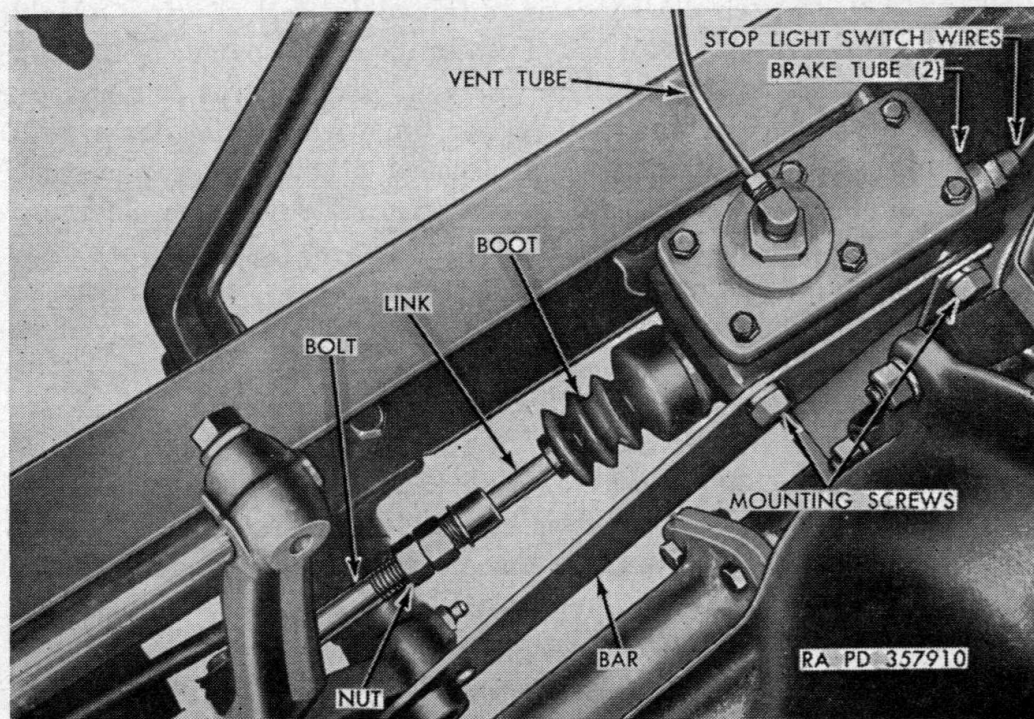

Figure 47. Brake master cylinder.
a. **REMOVAL.** Raise hood and disconnect battery ground at battery terminal. Remove vent tube (fig. 47). Remove two bolts holding master cylinder shield and remove shield. Pull stop light switch wires out of terminal on switch. Remove stop-light switch. Remove outlet fitting screw. Remove master cylinder front screw attaching cylinder to frame. Remove master cylinder rear bolt nut. Remove cotter pin holding master cylinder tie bar on pedal cross shaft. Remove master cylinder boot (fig. 47). Remove master cylinder and tie bar. Remove tie bar from master cylinder.
*g.* REMOVAL OF MASTER CYLINDER TO FRONT HOSE BRAKE TUBE (fig. 47). Remove clip from frame. Disconnect tube from brake hose fitting (frame to axle). Disconnect tube from master cylinder connection and remove tube.
*h.* INSTALLATION OF MASTER CYLINDER TO FRONT HOSE BRAKE TUBE (fig. 47). Connect tube at master cylinder. Connect tube at brake hose (frame to front axle). Install tube clip at frame. Bleed front brakes (*s* below). Press brake pedal; if soft pedal is experienced, bleed all brakes (*s* below).
*i.* REMOVAL OF MASTER CYLINDER TO REAR HOSE BRAKE TUBE (fig. 47). Remove clip on underside of frame rear cross member. Remove clip on frame side member. Disconnect tube at rear brake hose. Remove master cylinder shield. Disconnect tube at master cylinder. Withdraw tube to rear of vehicle.
*j.* INSTALLATION OF MASTER CYLINDER TO REAR HOSE BRAKE TUBE (fig. 47). Install tube in frame side member. Connect tube to master cylinder, and install master cylinder shield. Install tube in frame rear cross member, and attach to hose fitting. Install tube clips on frame side member and rear cross member. Bleed rear brakes (*s* below). Press brake pedal; if soft pedal is experienced, bleed all brakes (*s* below).